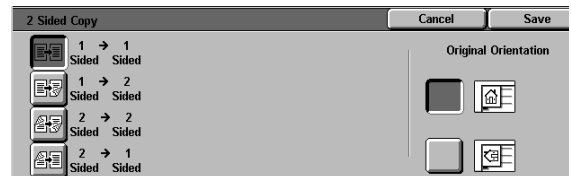

Figure 3: 2 Sided Copying options
- 2 If you have a DADF, touch the **2 Sided Copy** button. Touch the desired option from those illustrated in Figure 3: